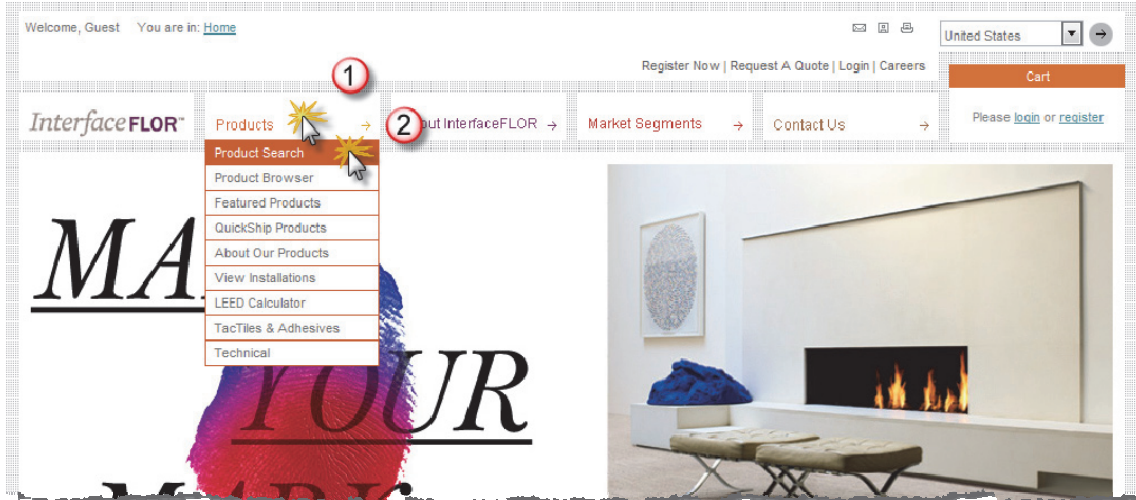

FIGURE 4-3.4 Interface Flor website
9. Select your region, e.g. *Americas\United States*, and then hover over the **Products** link, and then click **Product Search** (Figure 4-3.4).